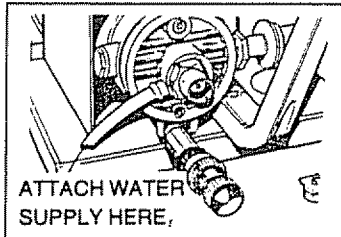

FIG. 12
- Hook up water supply (Fig. 12).